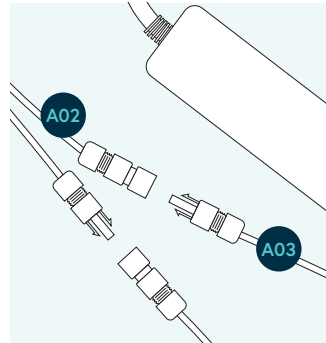

FIGURE 09
- | 1. Connect the MC4 connectors of the power cable **A02** to the MC4 connectors of the AC/DC convertor **A03** (fig. 09).